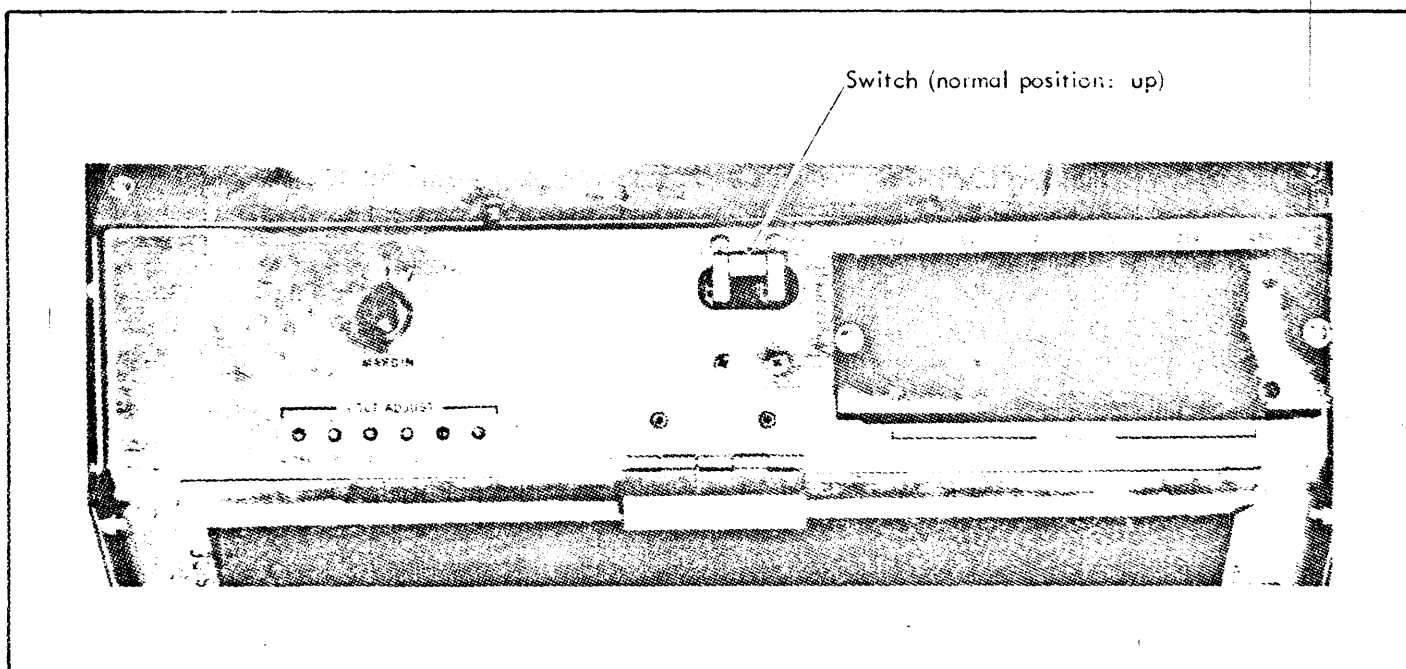

Figure 17. PT20C Power Supply
2. Check the switch on the PT20C Power Supply to ensure that it is up (see Figure 17). The PT20C Power Supply is at the rear of the cabinet. Moving the switch to the up position turns on the d. c. voltage to the controller and to the multiple-drive selection unit.